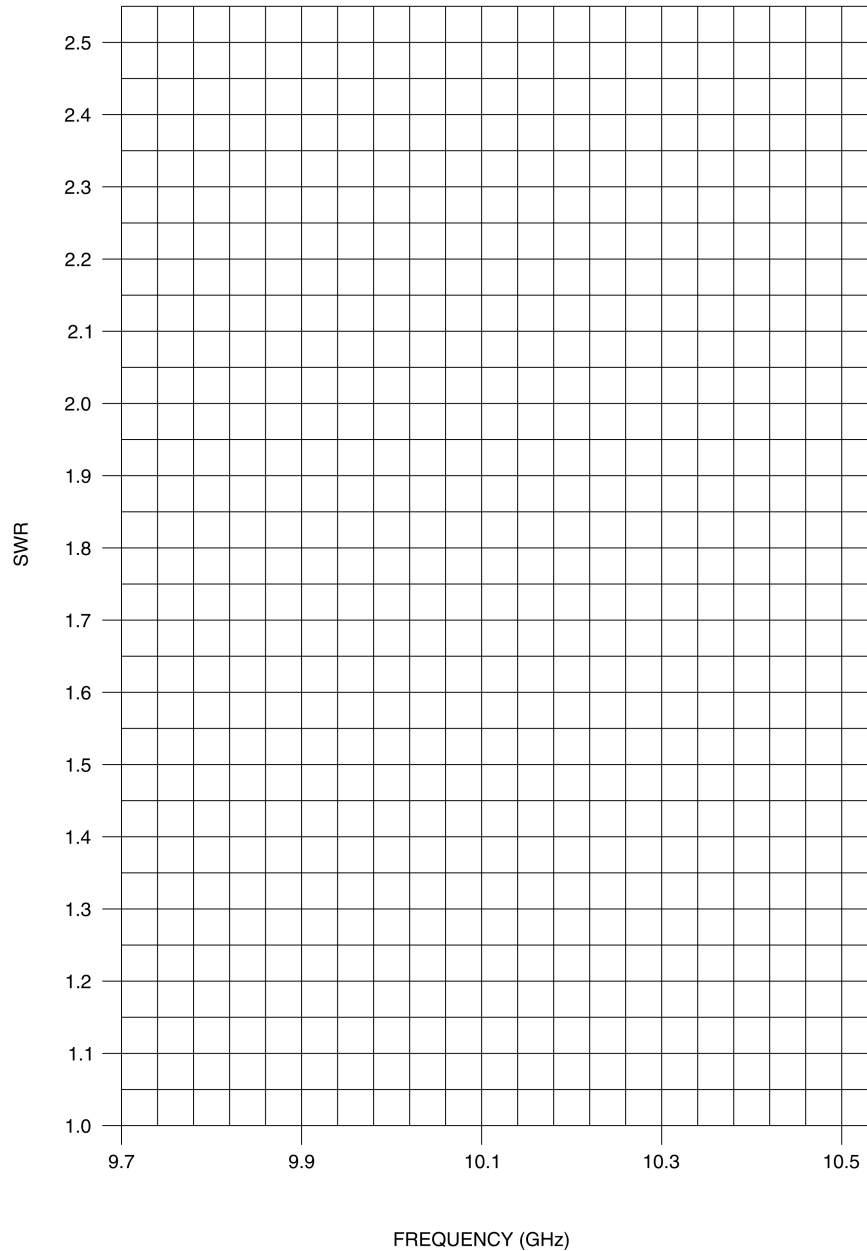

Figure 2-12. SWR-versus-frequency curve before and after load matching.
- 24. From the results recorded in Table 2-3, plot in Figure 2-12 the SWR-versus-frequency curve before load matching. Then, plot this curve after load matching.